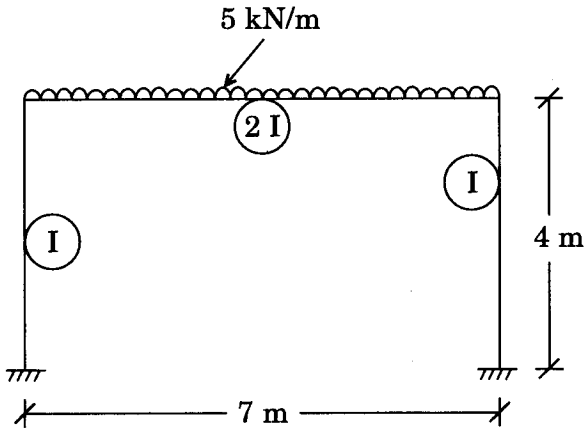

Figure 2
3. A portal frame is loaded as shown in Figure 2. Analyse the portal frame and draw B.M. and S.F. diagrams. Assume moment of inertia as shown within circle.